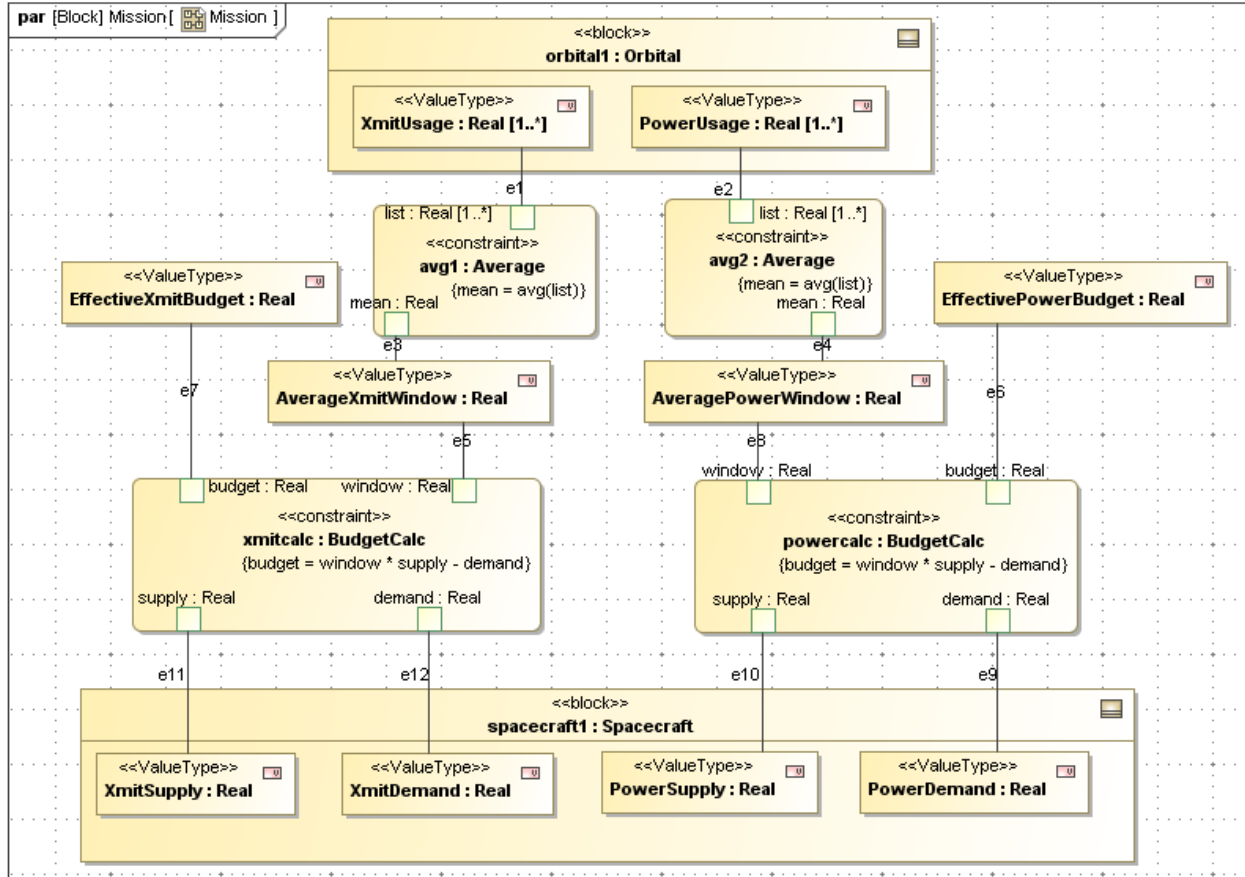

Figure 6.6 Parametric diagram for **Mission**
7. Create the parametrics diagram shown in Figure 6.6 inside the block **Mission**. There are two usages of each of the constraint blocks defined in Step 5.